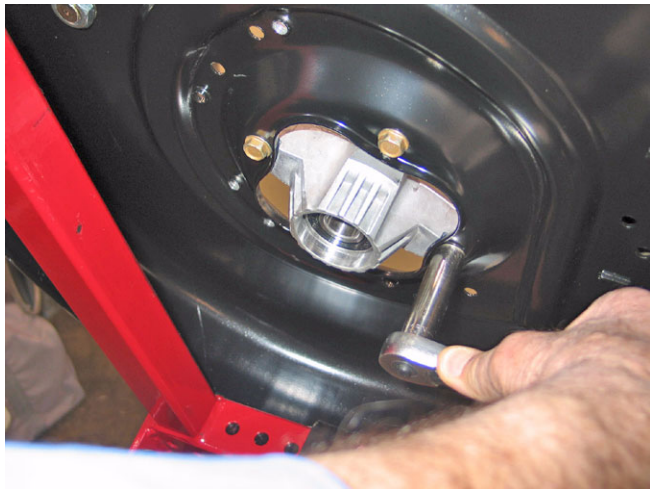

Figure 16
- 5.5. Using a 1/2" socket remove the spindle housing for inspection or replacement. See Figure 16.